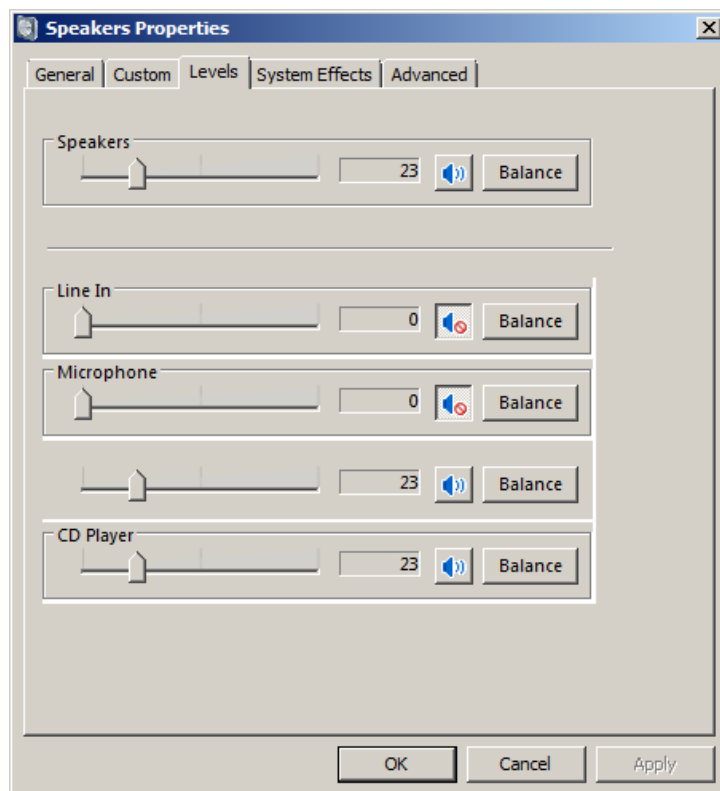

Figure 2.10 Playback channel properties – Output levels
- 3) Click on the tab '**Levels**' to open the output mixer (as in Fig. 2.10). Then mute Line In and Mic channels, if exist.